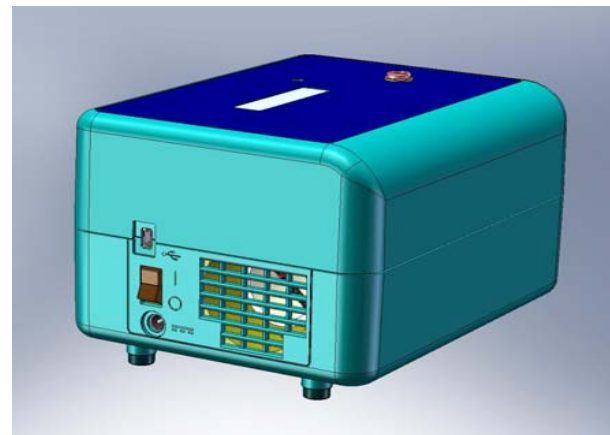

Figure 5 Side view of Vernier Mini GC
- a. Turn on the Mini GC, using its on-off switch on the left side (see Figure 5).